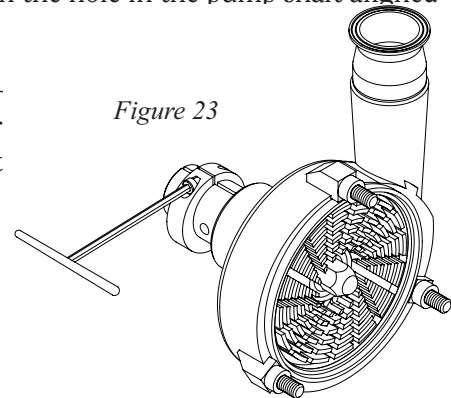

Figure 23
- f) *Align the slot of the shaft collar (37) directly over one of the slots on the shaft (Figure 23).*
- h) Tighten the shaft collar screw (36) in the shaft collar (37) to the proper torque, see page 5 (*Figure 23*).